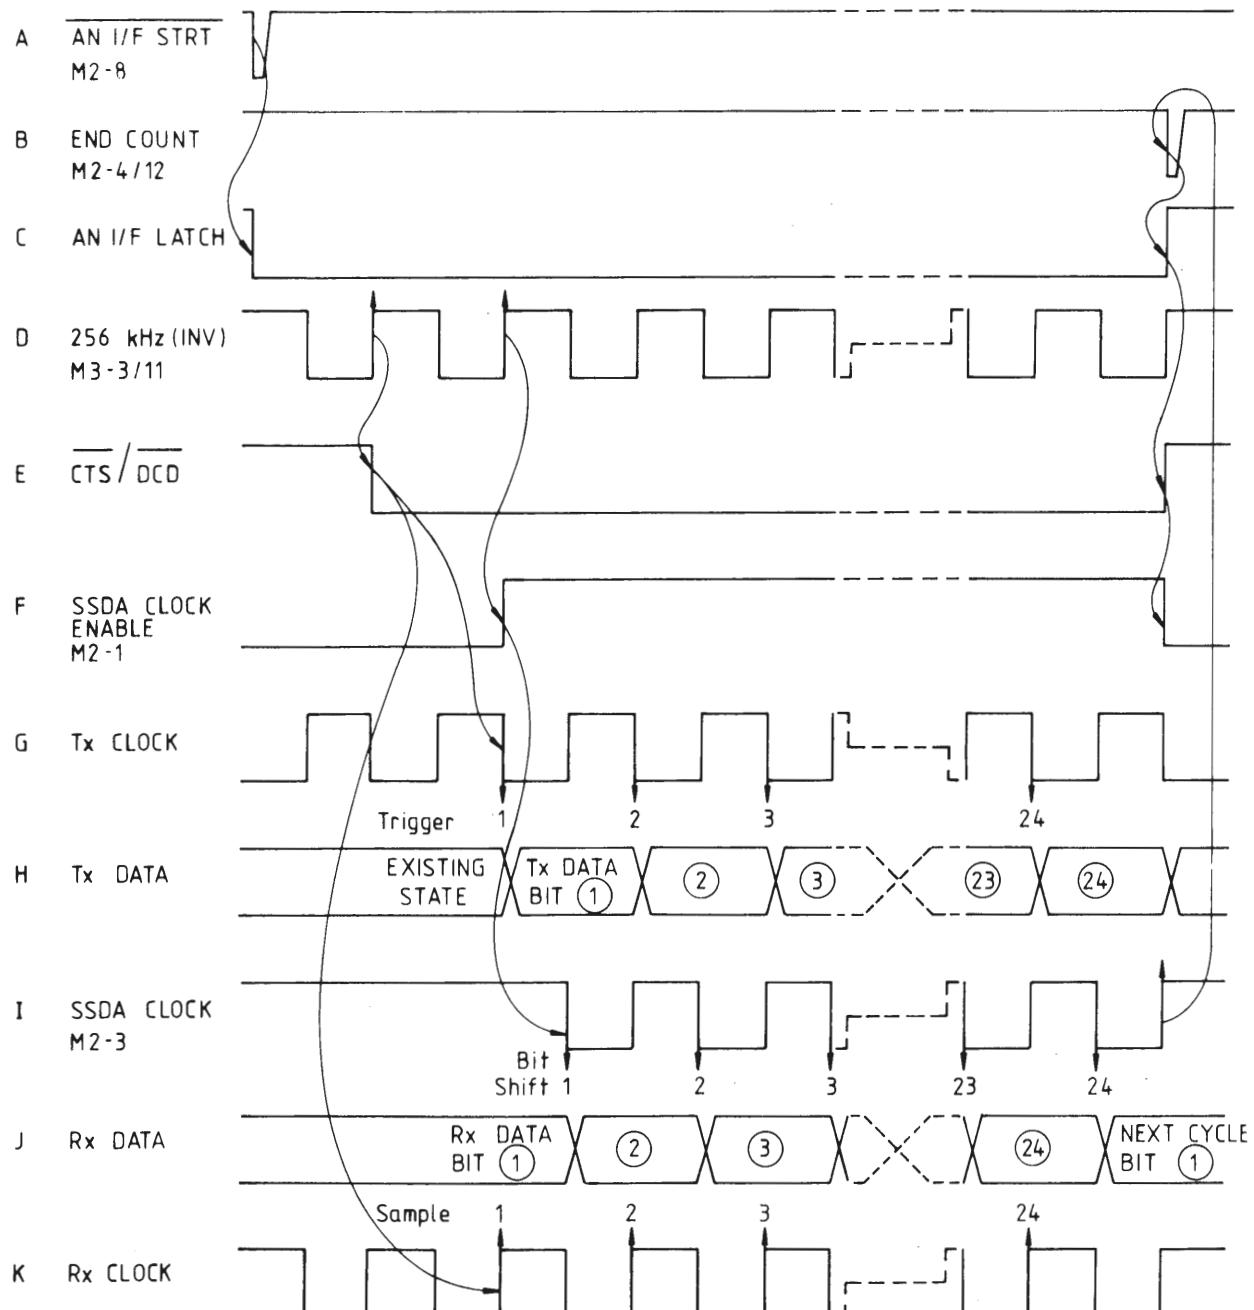

FIG. 6.16 SSDA CLOCK GENERATOR WAVEFORMS
6.4.4.1 SSDA, Tx and Rx Clock Action (Fig. 6.16)
(Refer to Fig. 6.16 Waveforms G and H).
(Fig. 6.16 Waveforms K and J).
(Refer to Fig. 6.16 Waveform I).
(Refer to Fig. 6.16 Waveforms A and C).
(Refer to Fig. 6.16 Waveforms D and E).
(Refer to Fig. 6.16 Waveforms D, F and I).
(Refer to Fig. 6.16 Waveforms I, B, C, E and F).